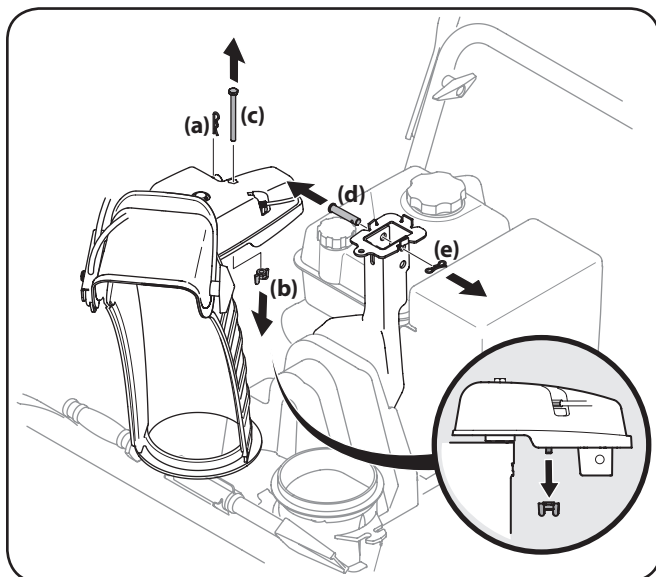

Figure 3-3
1. Remove cotter pin (a), wing nut (b) and hex screw (c) from chute control head. Remove clevis pin (d) and bow-tie cotter pin (e) from chute support bracket. See Figure 3-3.